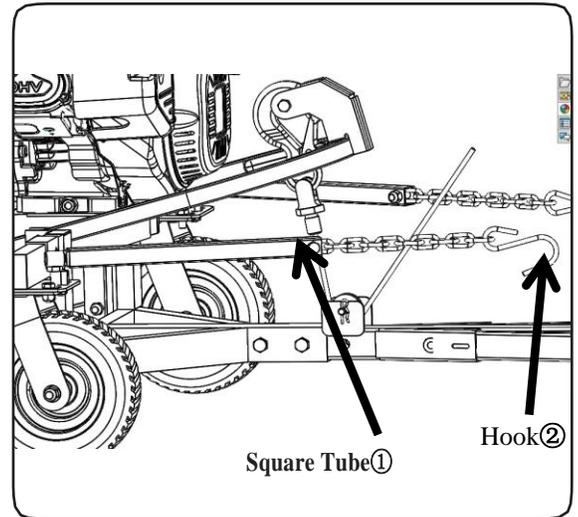

Figure 2-8
Rotate the square tube ① connected with the iron chain to adjust the appropriate length, and hook the two hooks ② on the plow to the front safety frame of UTV, so that it can be effectively fixed to prevent the plow from swinging, as shown in figure 2-8.